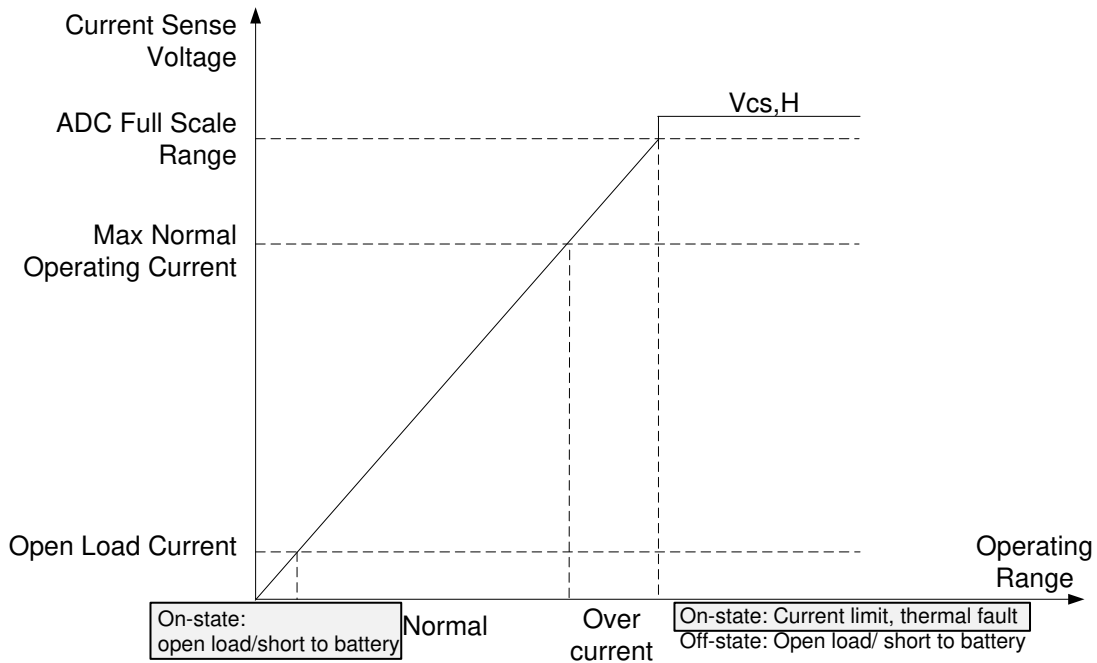

Figure 46. Step 1: Short-to-GND Detection in the On-State
1. In the on-state, for the current-sense version device (version B), on-state open load and short to battery are recognized as an extremely-low voltage level on the current-sense pin, whereas short to GND is reported as a pulled-up voltage  $V_{CS,h}$ . Therefore, the user can find a short to GND (see Figure 46).